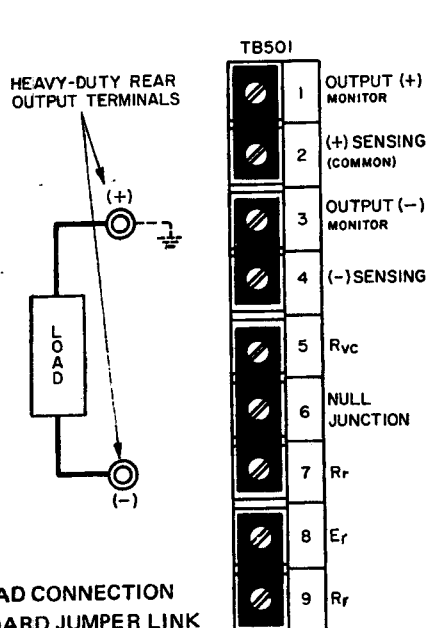
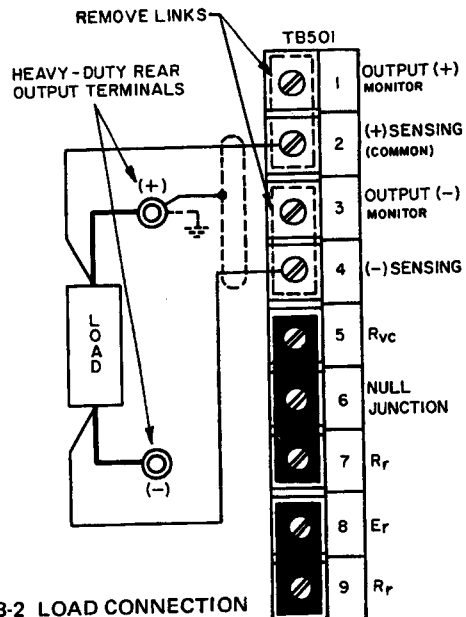

FIG.3-1 LOAD CONNECTION AND STANDARD JUMPER LINK CONNECTIONS WITHOUT ERROR SENSING
FIG. 3-2 LOAD CONNECTION USING REMOTE ERROR SENSING
3-2 GENERAL. The Power Supply is shipped from the factory with five (5) removable jumper links in place at the rear barrier strip (TB501) as shown in FIG. 3-1. THESE LINKS MUST BE IN PLACE AND SECURED TIGHTLY for standard local operation. Loose terminal links or wires at the barrier strip will cause malfunction of the power supply.
3-3 LOAD CONNECTION. The load may be connected in any of the two ways illustrated (FIG. 3-1,3-2). Load connecting wires should be as heavy as practicable, since load wire voltage drops will degrade regulation performance. Twisting of load wires will help to preserve the low output impedance of the power supply. To keep the DC voltage drop in the load connecting wires to a minimum, and to preserve the dynamic characteristics of the power supply (AC stability, output impedance and recovery time), load wires and error sensing leads should be as short and as large in diameter as practicable. Both lead pairs should preferably be tightly twisted. For minimum ripple and noise pick-up, the error sensing leads must be shielded. The shield, as well as one side of the output (preferably the positive), should be returned to the common ground point (Refer to FIG. 3-2)
3-5 Specified regulation performance DIRECTLY AT THE LOAD requires the use of remote error sensing. A twisted, shielded pair of wires from the sensing terminals directly to the load will compensate for load wire voltage drops up to 0.5 volt per wire (Refer to FIG. 3-2). Observe polarities: The positive sensing wire [from terminal (2)] goes to the positive load wire.